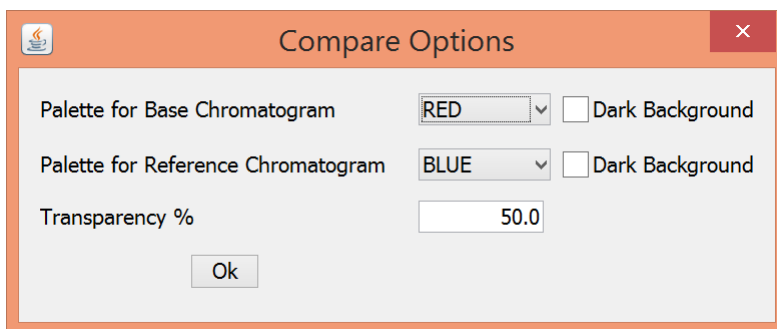

Figure 11.7: The Compare Options Window
- **Options.** The command opens a new window, which allows the user to set the colors of the various chromatogram maps. The window is shown in Figure 11.7 and contains the following items: